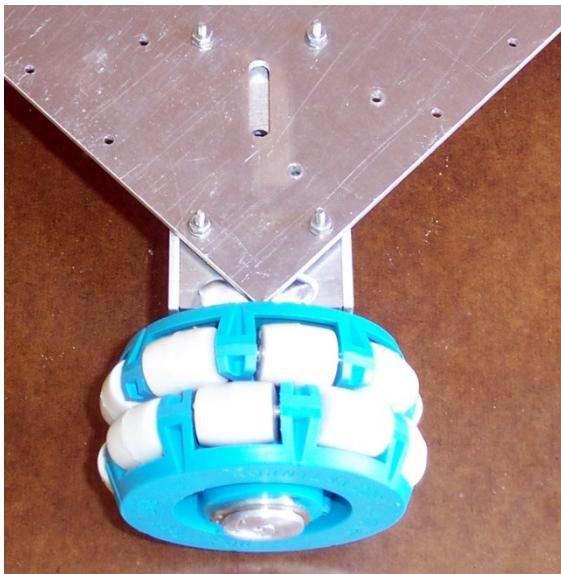

Figure 14: Omni-Wheel and Motor Attachment
2. To insert an omni wheel refer to Figure 14. Fasten the motor housing on with washers and #4 nuts.